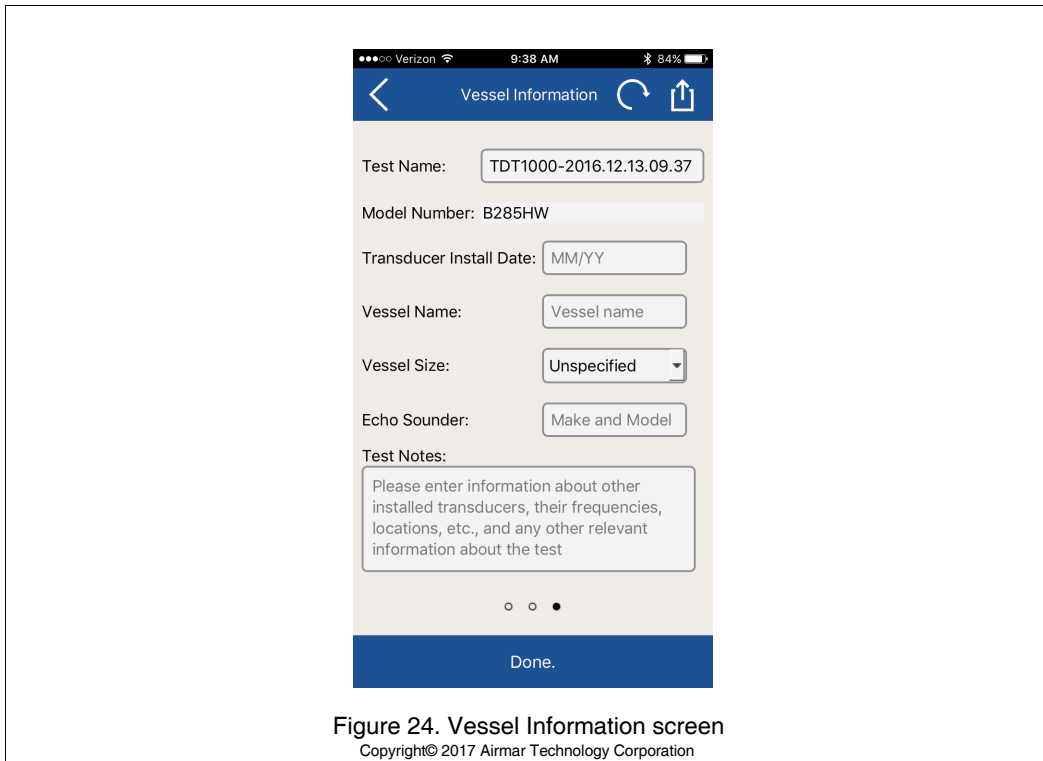

Figure 24. Vessel Information screen
- “Vessel Information” will appear on the blue ribbon at the top of the screen (Figure 24).